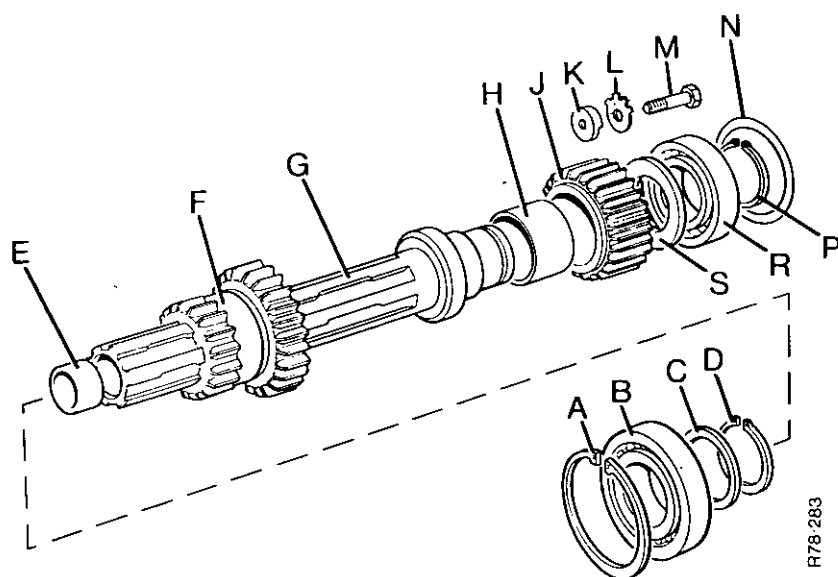

FIGURE 75.
17. Assemble the top shaft as follows, see Figure 75.